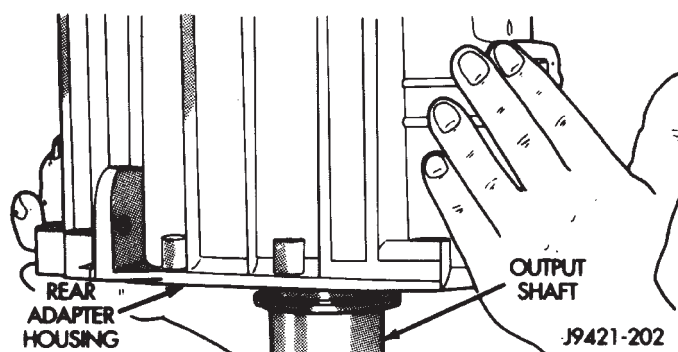

Fig. 36 Rear Adapter Housing Removal
(3) Lift rear adapter housing upward and off geartrain (Fig. 36).